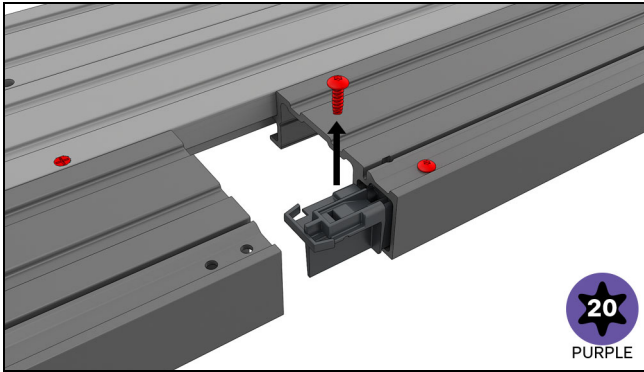

Figure 33
4. Remove the screws from the splice keys. See Figure 33.